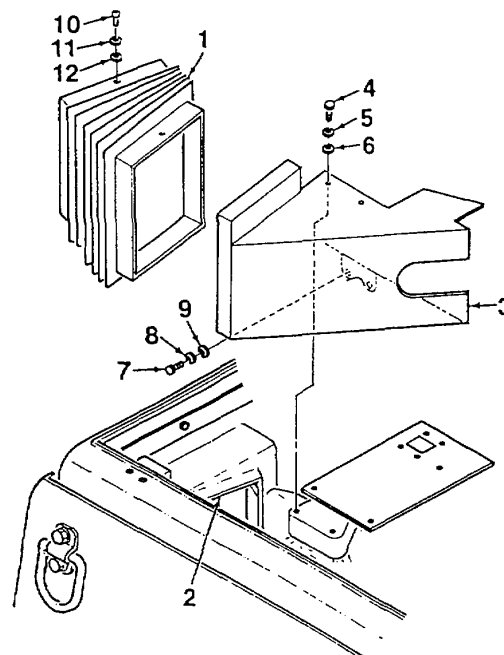

Figure 4-32. Exhaust Duct
1. Remove old silicon adhesive from air outlet duct (3, Figure 4-32). Make sure that mating surfaces are clean.
2. Fit air outlet duct (3) in place around cylinder head. Secure using two bolts (7), lockwashers (8), and washers (9).
3. Install two bolts (4), lockwashers (5), and washers (6). Apply a silicon bead to exposed edges of air outlet duct (3) to seal junction of duct and cylinder head.
4. Apply a thin layer of silicon to lip of air outlet duct (3) where it mates with exhaust bellows (1).
5. Install exhaust bellows (1) onto air outlet duct (3) using new rivets.
6. Mate exhaust bellows (1) to air duct (2, located in valve access door). Secure using screw (10), washer (11), and lockwasher (12).